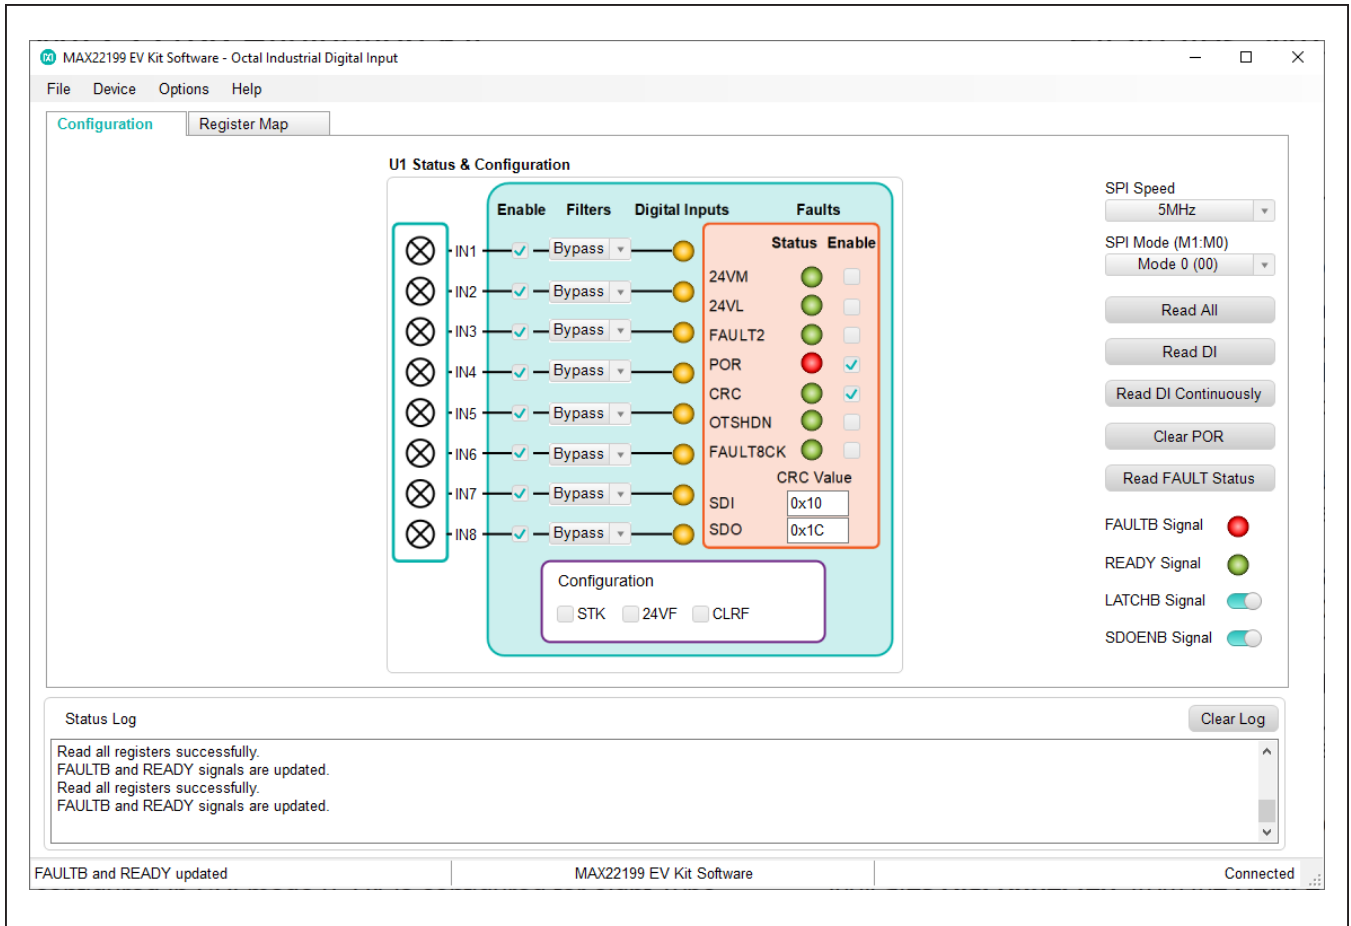
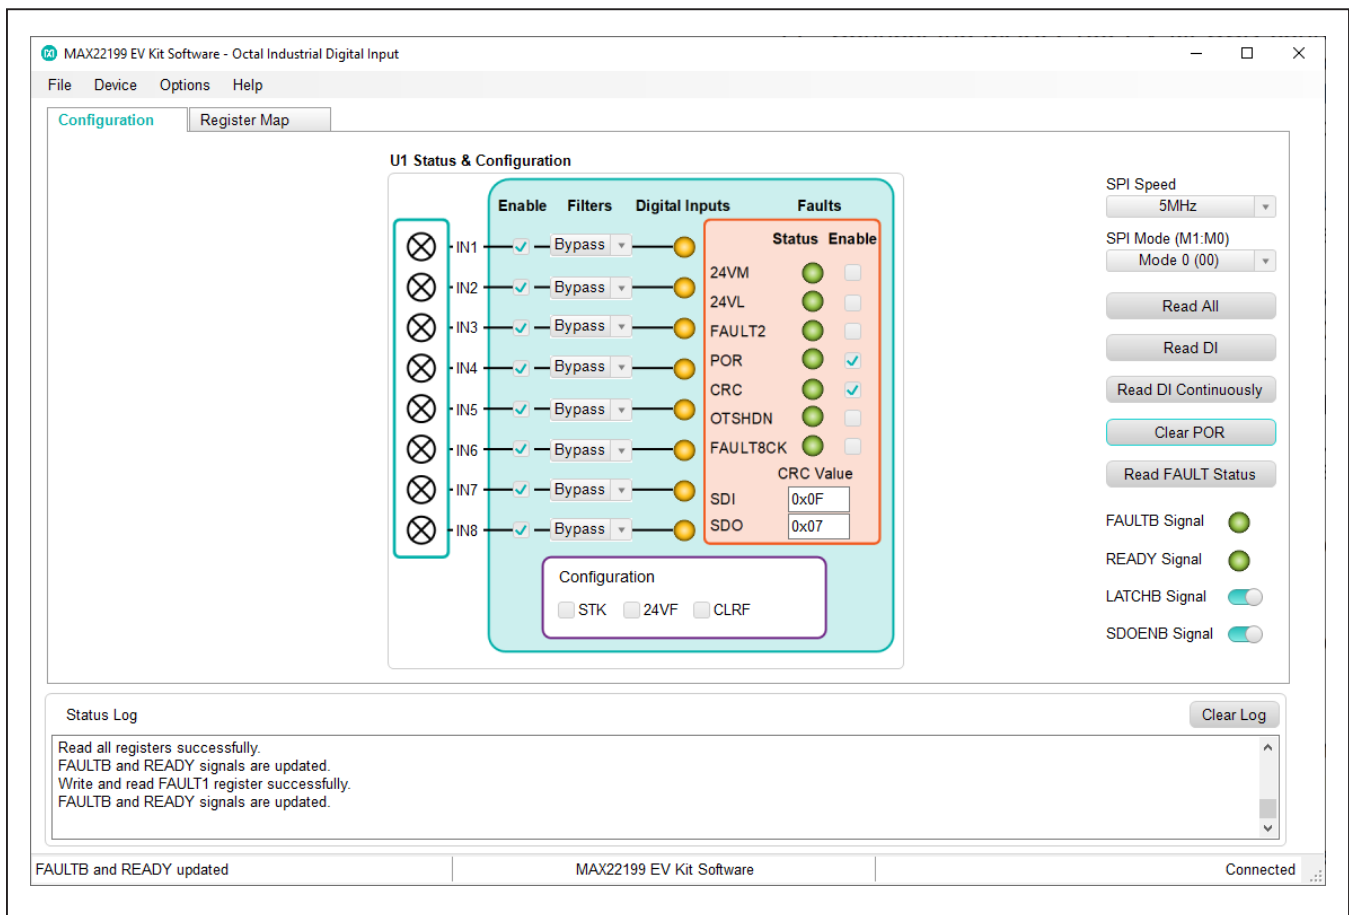

Figure 1. MAX22199 EV Kit Software Startup Window
Figure 2. MAX22199 EV Kit Software—Clear POR
- 9) Once the hardware is ready to use, launch the EV kit software by opening its icon in the **Start | Programs** menu. The EV kit software appears as shown in Figure 1.
- 11) Click the **Clear POR** button. Observe that **POR** status light for U1 is changed to green, and **FAULTB Signal** status light is also changed to green in the **Configuration** tab as shown in Figure 2.
When the MAX22199 EV kit software starts, it automatically detects if the EV kit is connected to a PC and indicates its status in the status bar at the bottom edge of the GUI. If the software does not recognize the EV kit board, make sure that the software and all drivers are properly installed, check the USB connection, and go to the **Device** menu and select the **Search for Hardware** option. When the EV kit is properly connected, the MAX22199 device (U1) is read and all controls are updated (see Figure 1).
default (Figure 1). After clicking the **Clear POR** button, the software clears the POR bit in the FAULT1 register. The  $\overline{\text{FAULT}}$  pin is pulled high and FAULTB LED on the EV kit is turned off after clearing the POR (Figure 2).